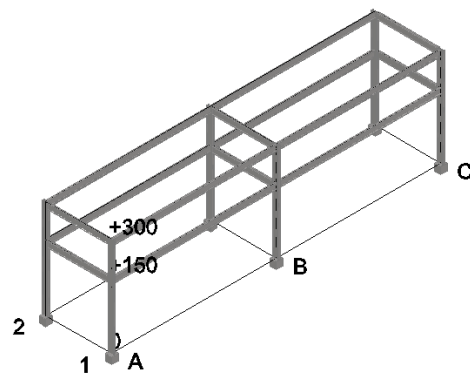

Figure 3-34 Model after adding two levels of beams
9. Similarly, create the second level. The model after placing all the beams is shown in Figure 3-34.